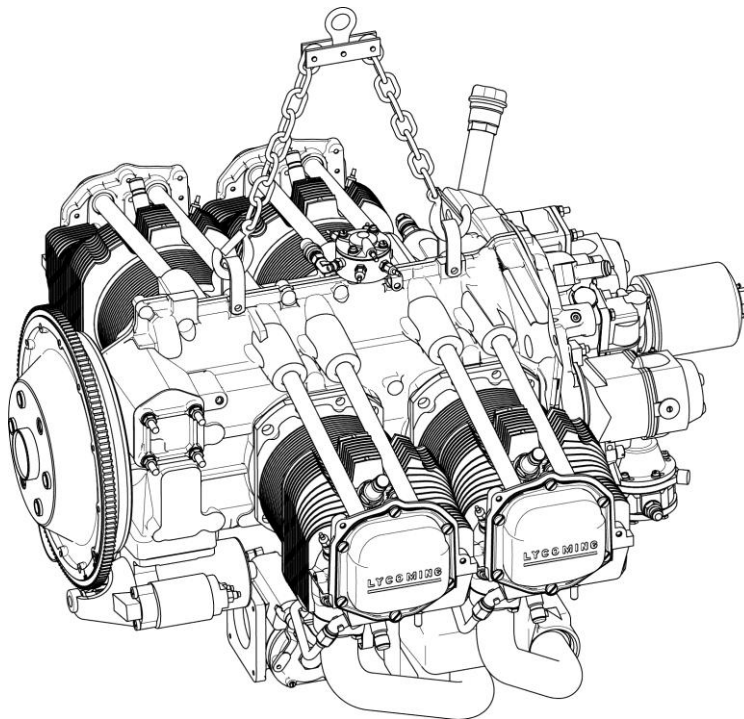

Figure 2
1. Connect the hoist and chains to the lifting lug on the engine as shown in Figure 2.